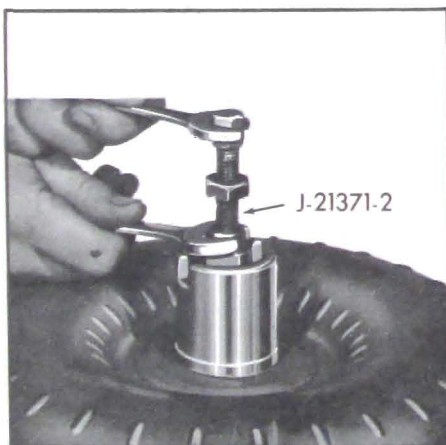

Figure 5-687
a. Install Tool J-21371-2 and tighten brass nut. See Figure 5-687.